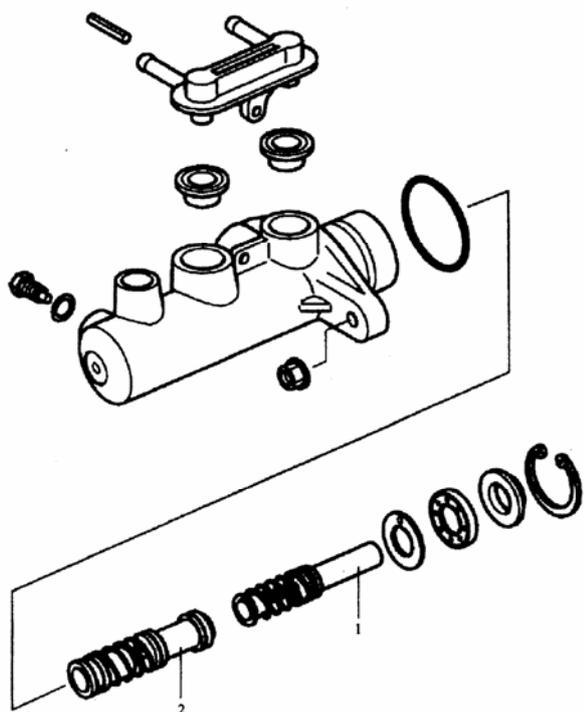

FIG.16-60: 1.First piston assembly 2.Second piston assembly
(1) Inspect all disassembled parts for wear or damage, and replace parts if necessary. (FIG.16-60).